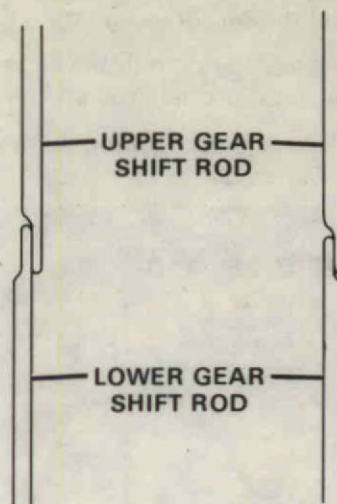

Figure 40. Connecting Gear Shift Rods.
- F. Position lower unit, aligning lower gear shift rod to upper rod. Shift rods must be positioned correctly or leakage and damage to gear shift rod seal will occur. Connect rods with screw. Figure 40.
- H. Secure gear housing to motor leg with four (4) hex head screws.